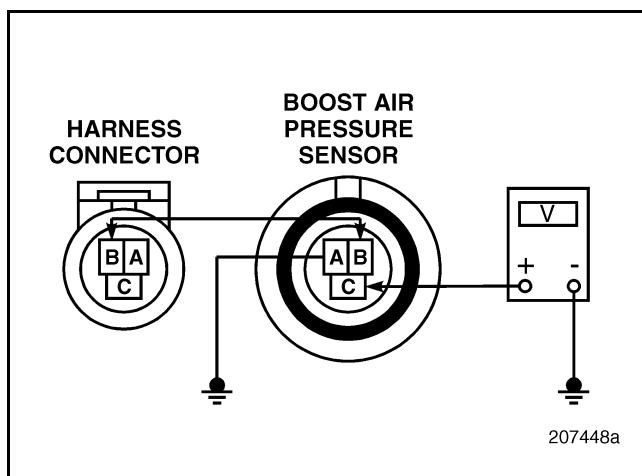

Figure 178
6. Measure the voltage between BAP Sensor pin C and a good ground at various pressures between 0 psi and 80 psi (see Figure 178). The correct pressure and output voltage specifications are shown in the table below.